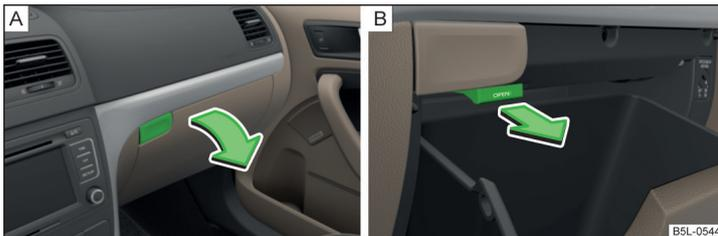

Fig. 88 Open storage compartment / open air supply
- Press the button » Fig. 88 - A.
- Open the air supply by pulling the lever to the stop in the direction of the arrow » Fig. 88 - B.